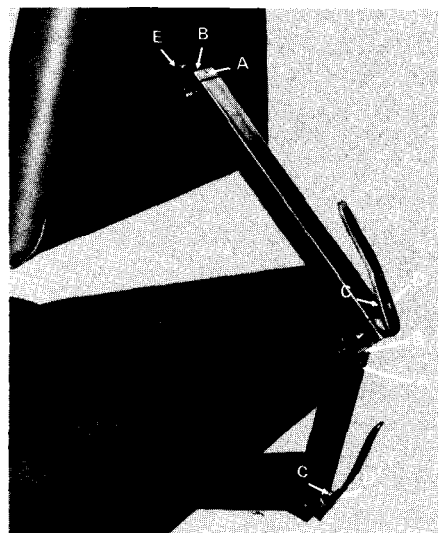

Fig. 1
Model 111: To adjust the holding action of the headlock, release the lock handle and loosen the lock screw Item A, Fig. 1, using a 3/32" allen wrench. With a 3/16" allen wrench or a 1/2" wrench, tighten the adjusting screw, Item B, Fig. 1, to obtain the greatest possible holding power without making the handle operation too difficult. Then with the handle in locked position, tighten the lock screw.
For proper action the handle stop must be adjusted so that when the handle is pushed down for locking action, the handle reaches a point where it wants to lock itself by suddenly going over center. The proper position of the stop is just a fraction over center. The stop is adjusted by loosening the lock nut Item C, Fig. 1 and turning the set screw stop Item D, Fig. 1 with a 1/8" allen wrench. After adjustment, lock the stop screw with the lock nut.
- 1) Remove the (4) screws, Item E, Fig. 1, which mount the headrest to the brackets of the headlock.